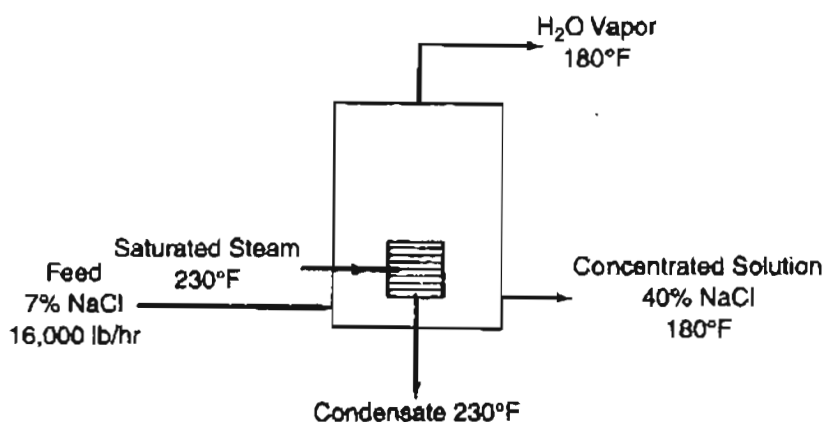

Figure P31.6
- 31.6** A feed stream of 16,000 lb/hr of 7% by weight NaCl solution is concentrated to a 40% by weight solution in an evaporator. The feed enters the evaporator, where it is heated to 180°F. The water vapor from the solution and the concentrated solution leave at 180°F. Steam at the rate of 15,000 lb/hr enters at 230°F and leaves as condensate at 230°F. See Figure P31.6.